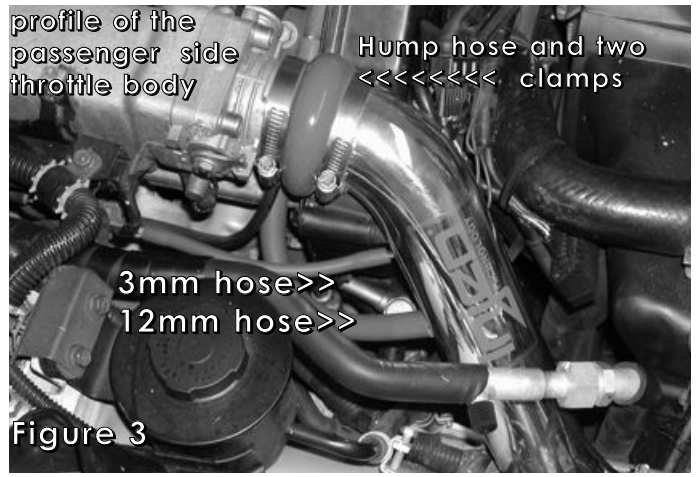

Figure 3
- 3- Replace the stock hose as indicated in figures 3, 4 and 7. The passenger side uses 12"- 12mm hose and a 7"- 3mm hose. The drivers side takes the 11"-15mm hose 13"-3mm hose and the 12"-12mm hose.
Do the same for the intake piping that has the 2 nipples installed on the passenger side as seen in figures 3 and 4.